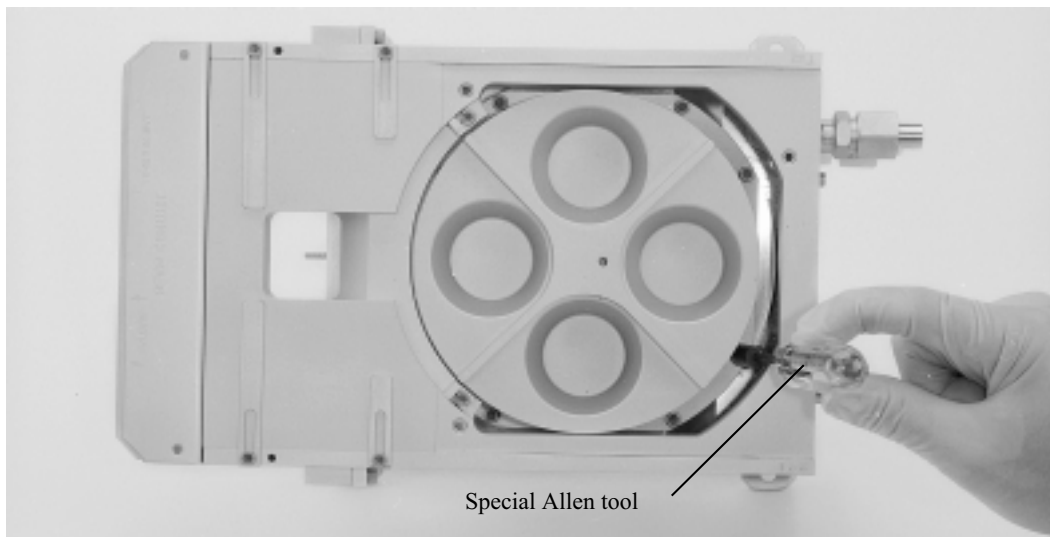

Figure 6-7. Removing the screws that secure the crucible to the mounting flange
Step 6: Remove the 8-32 3/8" screws that secure the crucible to its mounting flange. There are eight of these screws, six of which will be accessible if you turn the crucible to the position shown in Figure 6-7. Perform the following steps in removing these screws: